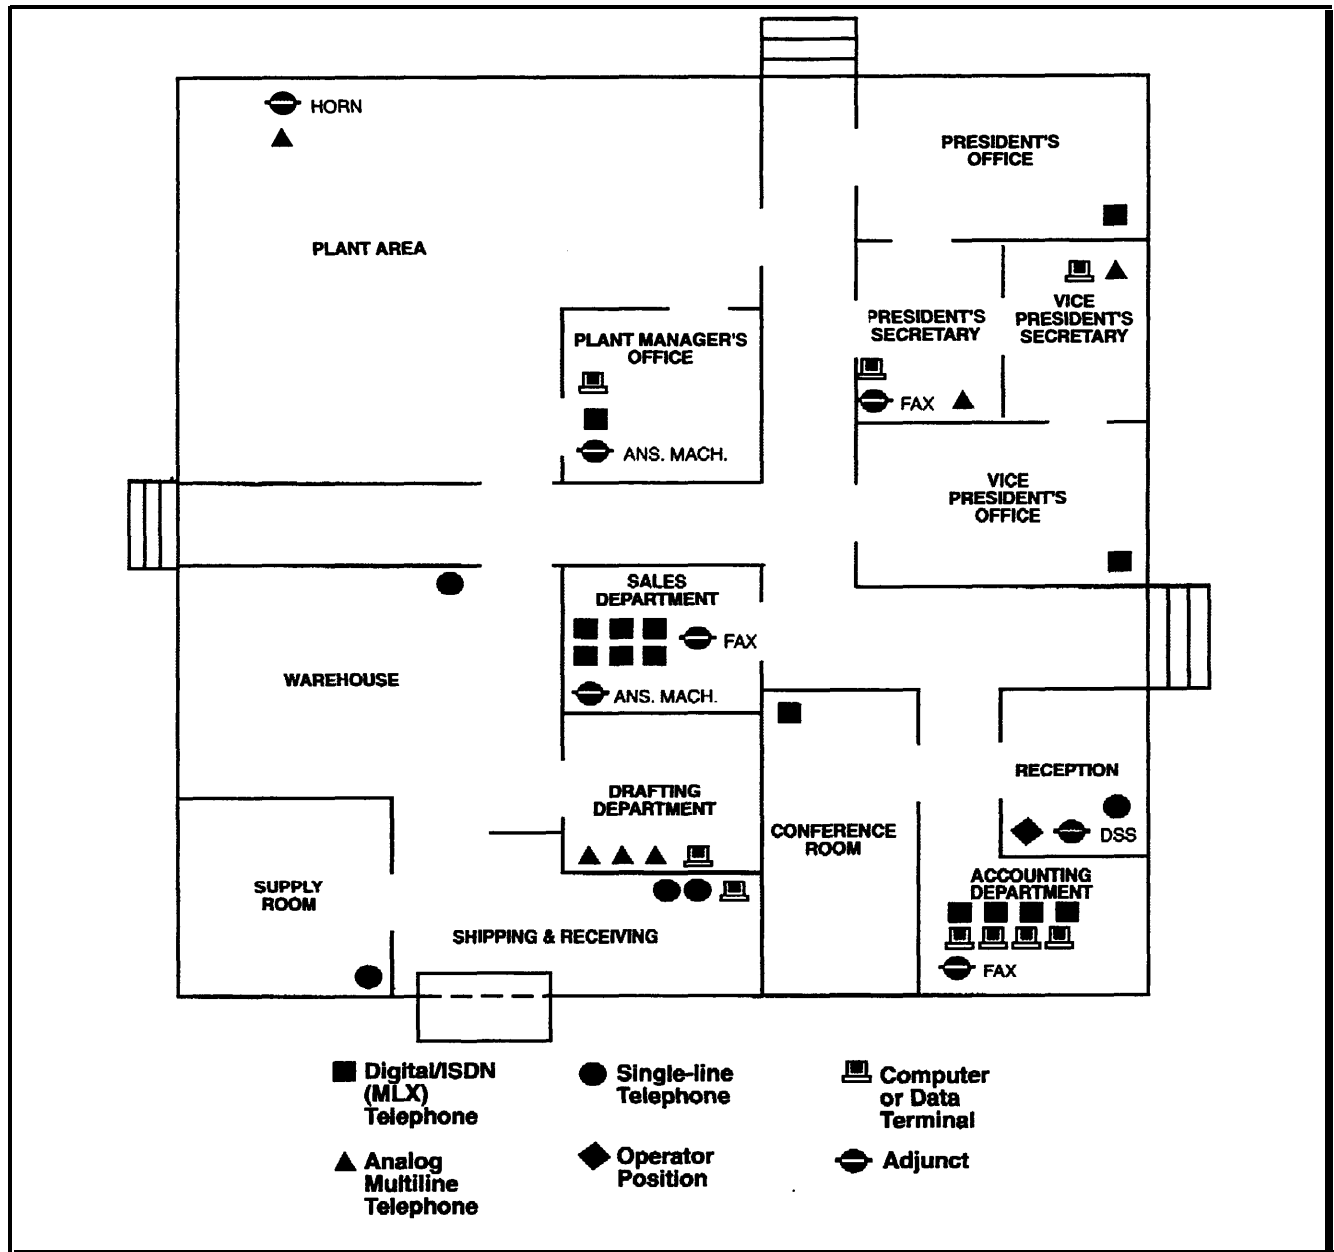

Figure 1-3 Floor Plan
2. Indicate the location of each employee's telephone, other locations where there will be a telephone (such as in a conference room), and the locations of data terminals, PCs, and host computers. Use the symbols shown in figure 1-3.
As shown in Figure 1-3, the floor plan does not need to be elaborate or to scale. The telephone symbol should be large enough to accommodate the size of telephone and the assigned number, and if you find it helpful, the name of the employee.